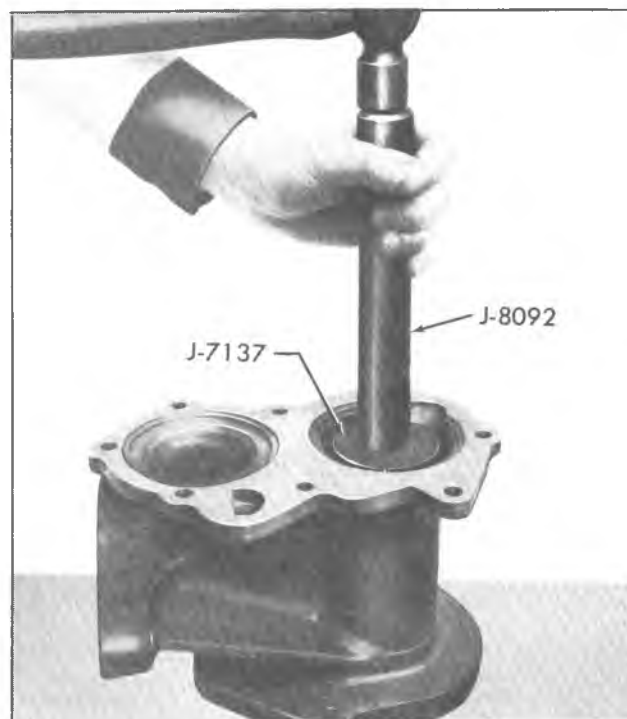

Fig. 2H--Installing Adapter Seal
2. Coat O.D. of seal with sealing compound and install seal using Tool J-23504 and Handle J-8092 in a similar manner as shown in Fig. 2H.
2. Using Tool J-7137 and Handle J-8092, install new seals in the adapter bore as shown in Figure 2H.
1. Install new seals in adapter using Tool J-7137 and J-8092 as shown in Figure 2H.